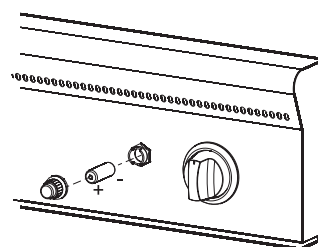

Figure 8
9. Remove ignitor button, insert AA battery (provided) positive side facing out, replace ignitor button. See Figure 8.